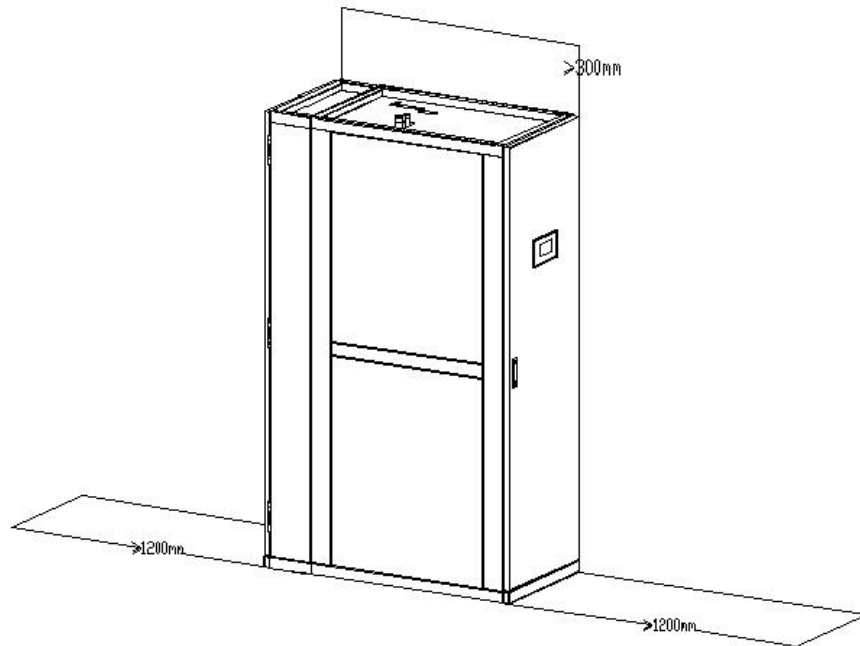

Fig. 2-7 Schematic diagram of installation and maintenance space of XRow series inter-row air conditioner indoor unit
- As for installation and maintenance space size requirements of the XRow system indoor unit, please refer to Figure 2-7.